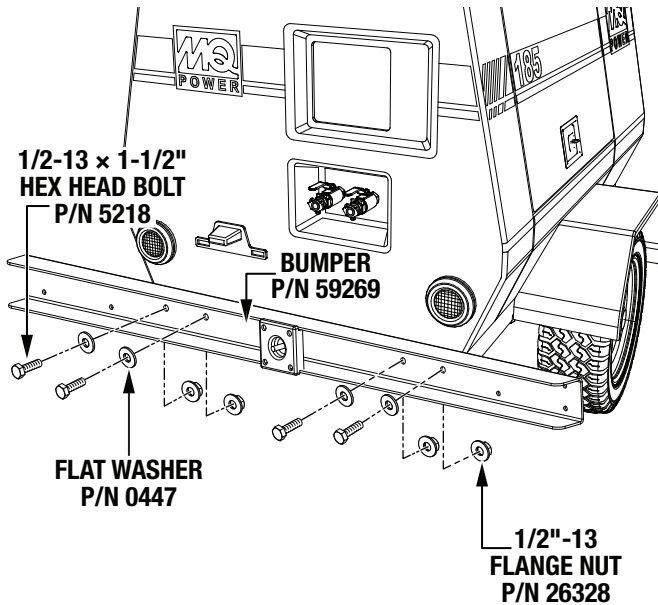

Figure 6. Bumper Installation
- Secure the new bumper (P/N 59269) to the chassis with the four 1/2-13 x 1-1/2" hex head bolts (P/N 5218), flat washers (P/N 0447), and 1/2"-13 flange nuts (P/N 26328). See Figure 6.